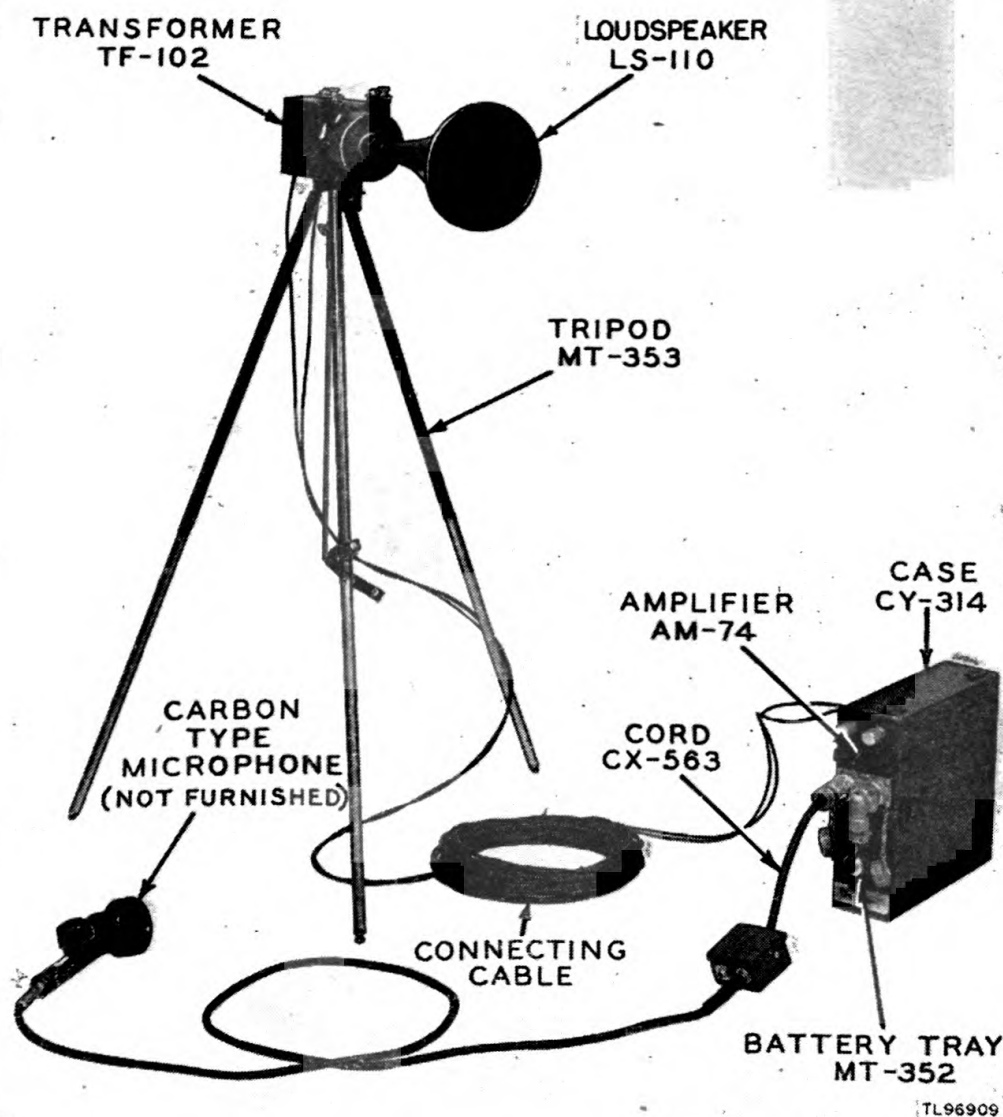

Figure 9. Public Address Set AN/PIQ-1 using Microphone T-17.
(2) *Using A Carbon-type Microphone (fig. 9).* A carbon-type microphone may be used if desired. Connect the set as described in paragraph 10b but fasten adapter Cord CX-563 to the connector on Amplifier AM-74. Plug the carbon microphone into the adapter box on Cord CX-563.
(3) Another 25-foot Cord CX-562 is supplied and can be used if the operator wishes to have an extension between the microphone and Amplifier AM-74.
(4) Each of the attachments may be used singly or in any combination desired. The operator should decide which connections and accessories will suit his needs the best and use that system.